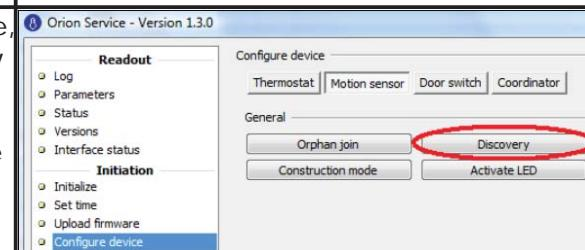

Figure 64
5. Click the **Discovery** button; see *Figure 64*.